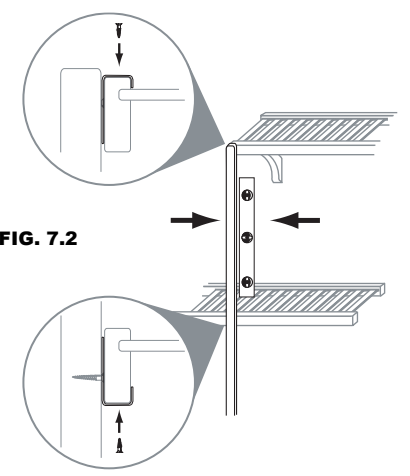

FIG. 7.2
- Plum (Vertical Level) (D) Vertical Support Bar and secure L-Hooks into (A) shelves using #4 3/4" screw (Fig. 7.2).
- Place SECOND (D) Vertical Support Bar at location provided (Refer to selected configuration layout - Measurement on guide is obtained from outside edge of Vertical Support Bars).
- Plum and secure remaining (D) Vertical Support Bar L-hooks into (A) shelves using #4 3/4" screw (Fig. 7.2).
- Flush shelf ends and screw bottom (E) shelf onto vertical support clips.